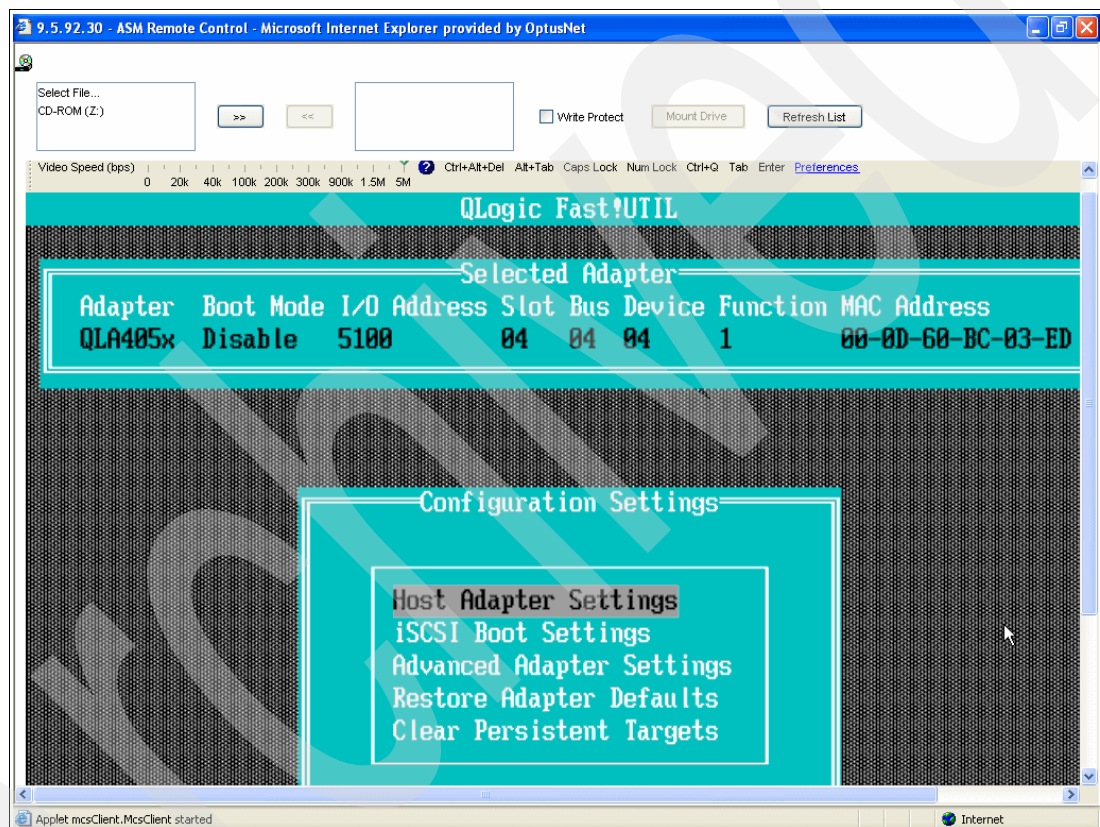

Figure 9-58 The Configuration Settings menu
- 7. The Configuration Settings menu shown in Figure 9-58 appears. You navigate your way around this utility by using the Up and Down arrow keys to select a menu option, then press Enter. To back up, press the Escape key.